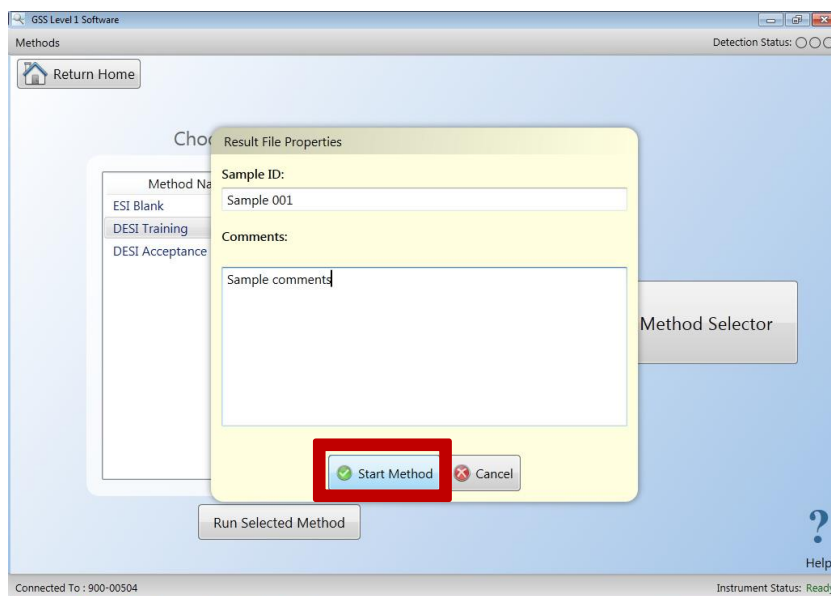

Figure 3.13 – “Result File Properties” window
4. Before the method starts, it is optional to enter a sample name or add any comments pertaining to the sample. This information will be saved on the generated data files. To start the method, select the start method button. (Figure 3.13).